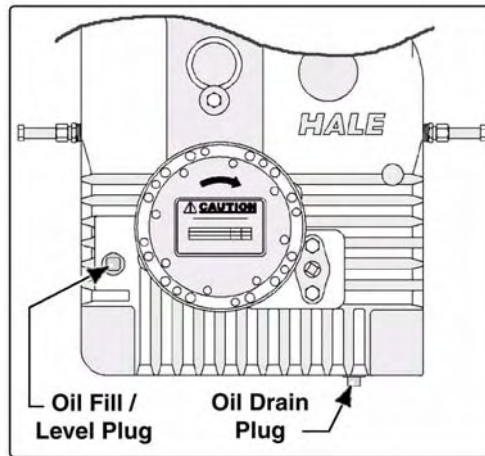

Figure 4-1: Gearbox Oil Change Plugs
2. Remove the oil fill plug, and check the oil level in the gearbox. (See Figure 4-1: "Gearbox Oil Change Plugs.")